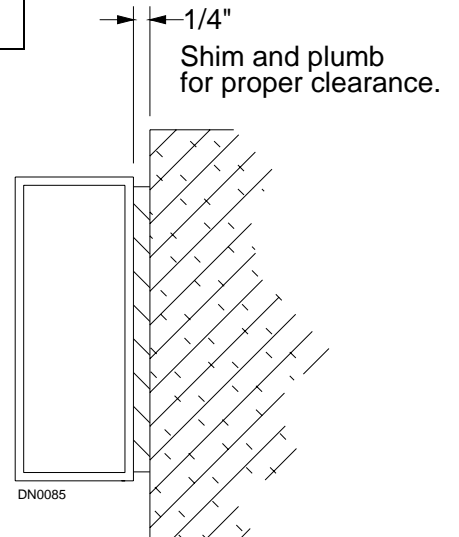

Figure 5
6. Plumb one jamb tube in both planes. If required, shim back of jamb (see Figure 5 pg. 5). Fasten jamb to building.